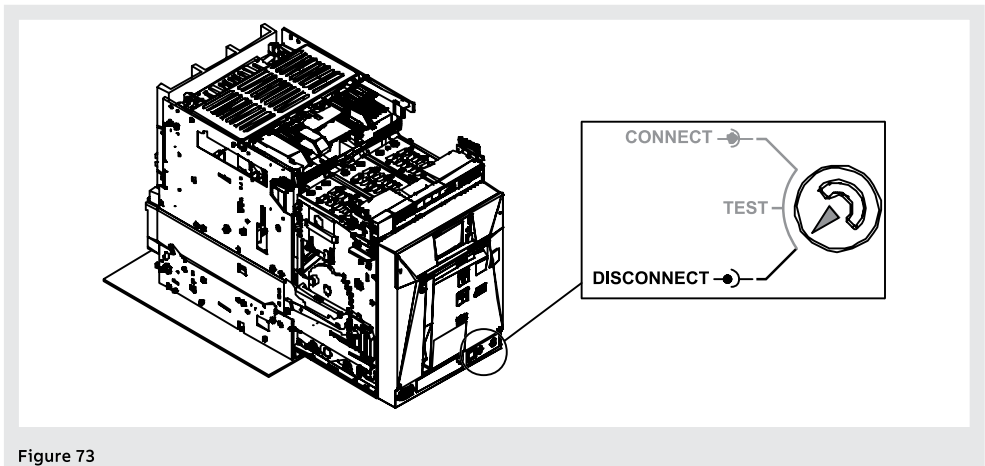

Figure 73
5. Make sure that the signalling device indicates the **DISCONNECT** position. See Figure 73.